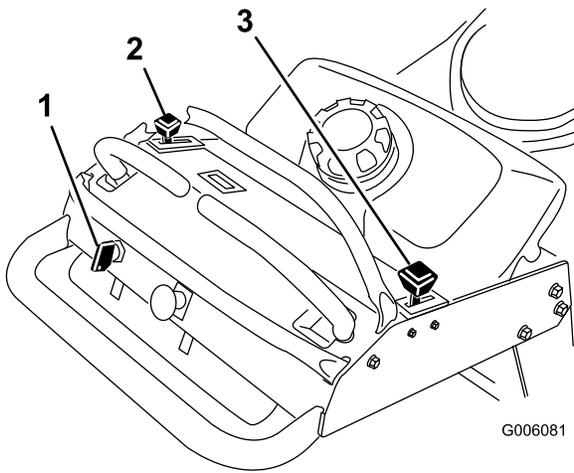

Figure 8
4. Move the throttle control to fast and move the choke lever to the on position before starting a cold engine (Figure 8).
- Move the throttle lever to slow (Figure 8).